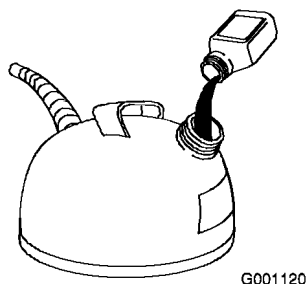

Figure 7
2. Add two-cycle oil to the gasoline according to the chart below (Figure 7):